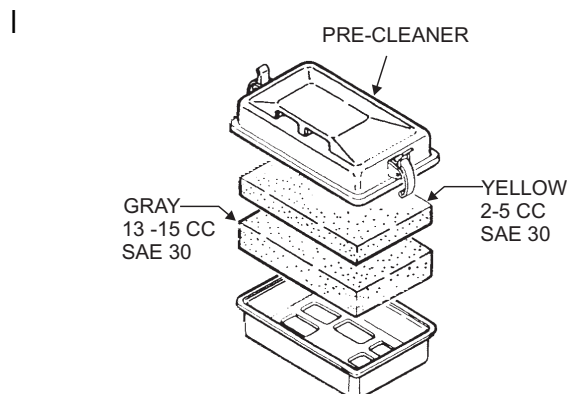

Figure 13. Pre-Cleaner
1. Remove the element from the pre-cleaner (Figure 13) at the top of the crankcase (body side) and clean it with cleaning oil (kerosene).